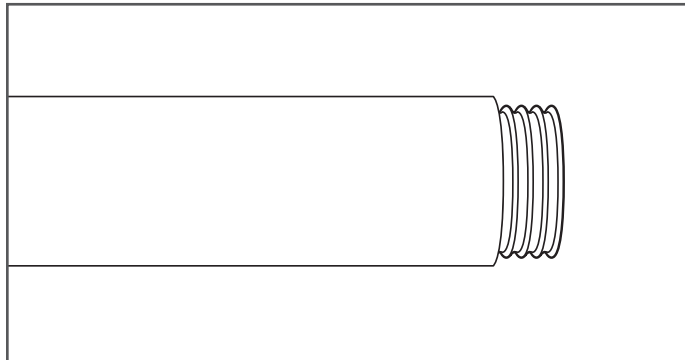

Figure 9-1
1. Remove DoubleTrac® fitting sections and inspect the Nylon 12 outer jacket and AutoFlare of the primary piping for any visible defects (Figure 9-1).